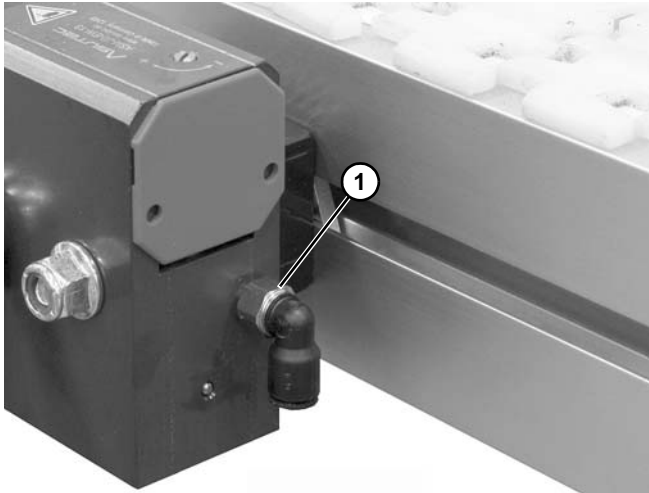
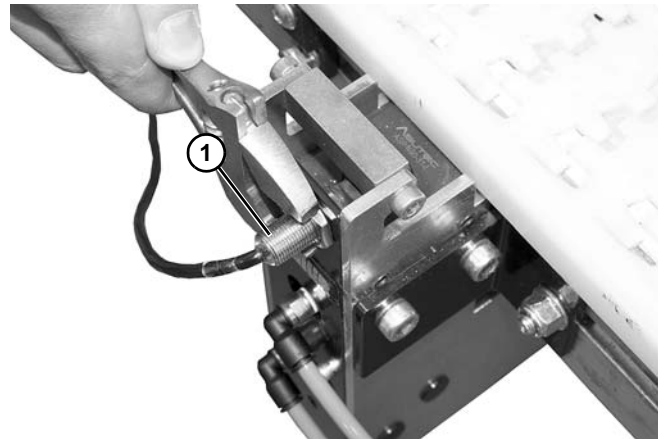

**Figure 16**
**Figure 18**
Dorner recommends using a 5 port, 2 way solenoid valve (**Figure 16**) to operate Lift and Locate Pallet Unit.
3. Connect Port 4 (**Figure 16**) of the 5 port, 2 way solenoid to the lowest port (**Figure 18, item 1**) on the lift. Dorner fittings accept 1/4" outside diameter tubing standard.
4. Connect Port 2 (**Figure 16**) of the 5 port, 2 way solenoid to the upper port (**Figure 18, item 2**) on the lift. Dorner fittings accept 1/4" outside diameter tubing standard.